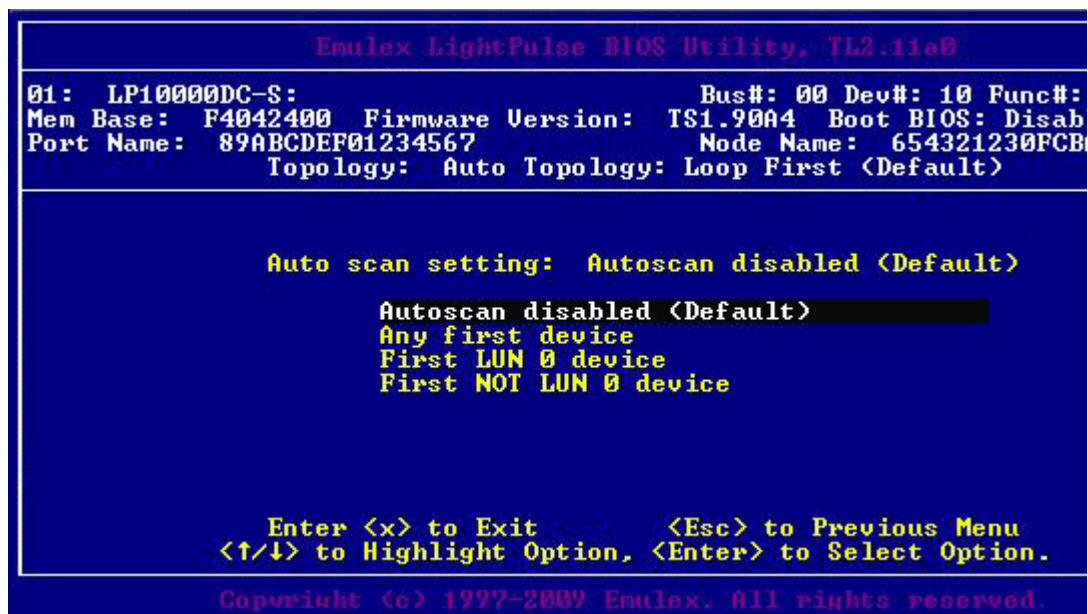

Figure 4-14 Set Auto Scan Menu
2. Select **Auto Scan Setting**. Figure 4-14 is displayed.